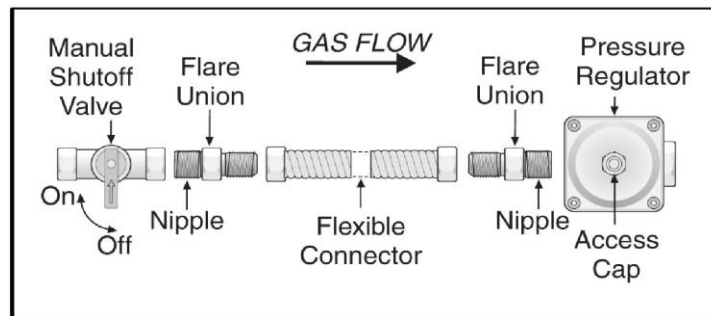

Figure 14
- 4) The gas intake connection of the appliance has a "male thread." When making the connection, take care not to apply stresses of any kind to the appliance. Over-tightening may crack the regulator resulting in a gas leak and possible fire or explosion (see Figure 14).
- 5) Screw the regulator cap back into the regulator and re-attach the regulator to the nipple and flare union (see Figures 14 and 23).